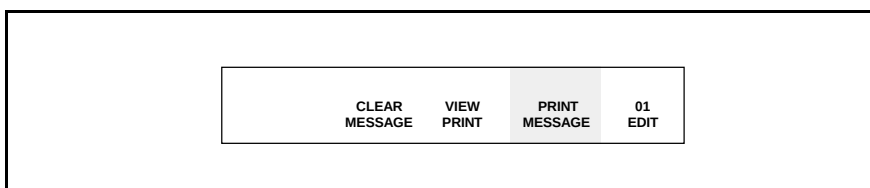

Figure 6-62. Frame <01 EDIT>
- If NO, go to Frame <01 EDIT>. Refer to Figure 6-62. Press **F4** to select <PRINT MESSAGE>.